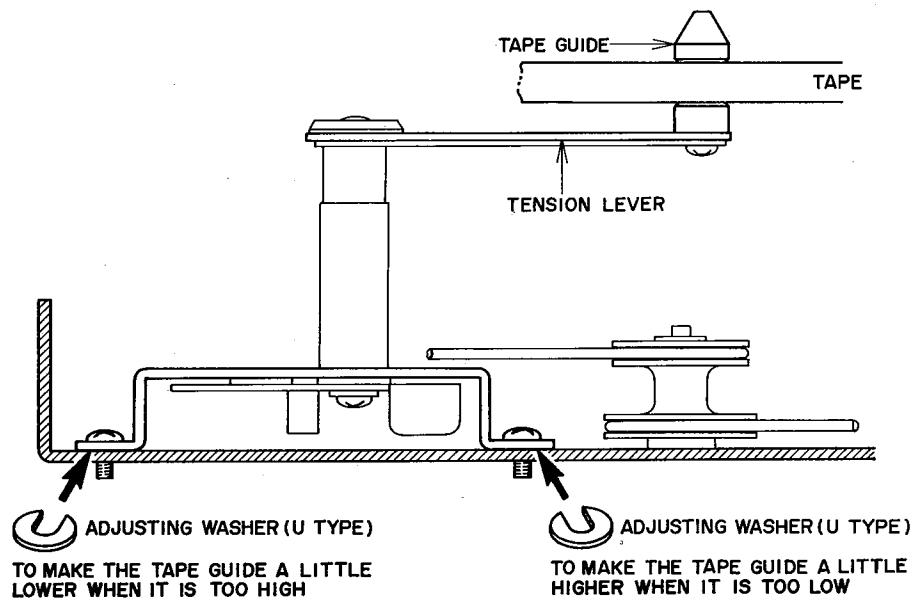

Fig. 14
(Refer to Fig. 14)
**Note:** Fig. 14 shows the right-hand tape guide. When adjusting the opposite one, the left screw raises it while the right screw lowers it.